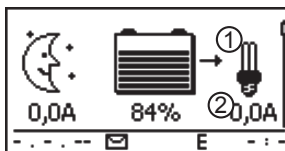

Fig. 9: Display content after connecting the load
3. ➔ Switch on the load output. The lamp ① (Fig. 9) appears on the display.
4. ➔ Switch on the load. Load currents ② greater than 0.1 A are shown on the display.
5. ➔ If Fig. 9 is not displayed then check the installation and if necessary correct the error using ☞ 15, p. 126 et seqq.